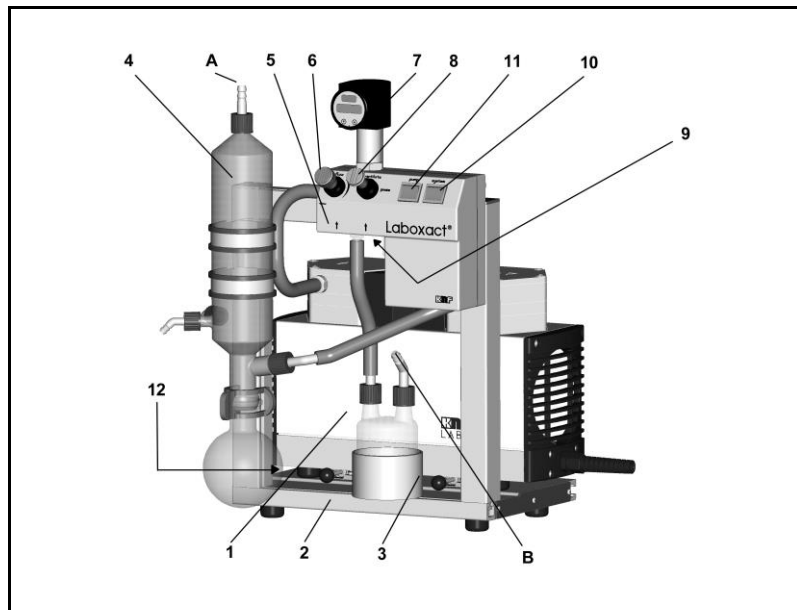

Fig. 4: Description LABOXACT Systems
- Tubing The system is supplied with complete tubing (see fig. 4, page 14).
1. Connect rotary evaporator to the free connection of the separator (fig 4/B, page 14).
2. Connect the condenser gas outlet (fig. 4/A, page 14) to an exhaust.
→ Insert the plug of the pump into the socket of the operating unit (pos. 5 in fig. 4, page 14).
→ Connect the operating unit (pos. 5 in fig. 4, page 14) to a properly installed safety socket.
Pump/ System	<ul style="list-style-type: none"> ▪ Fan openings not blocked ▪ Specifications of the power supply correspond with the data on the pump's/the vacuum system's type plate ▪ The pump outlet is not closed or constricted ▪ Vapor outlet on the top of the high performance condenser is not blocked ▪ The media are compatible with each other (when running two different processes simultaneously) ▪ No reactive, explosive or otherwise hazardous mixtures may be produced when ventilating the vacuum system through the air inlet (see fig. 4/9, page 14) (if necessary, use an inert gas)